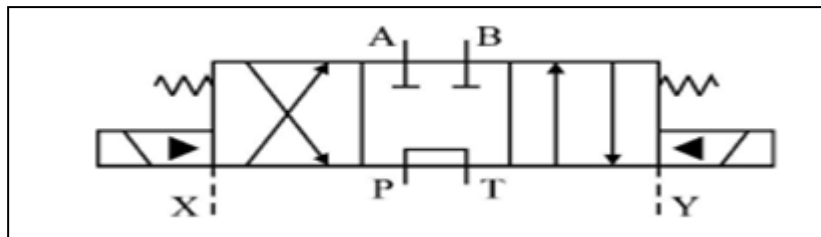

Fig No. 2
3. From Figure No. 2 answer the following question:
- (ii) State its application (A)